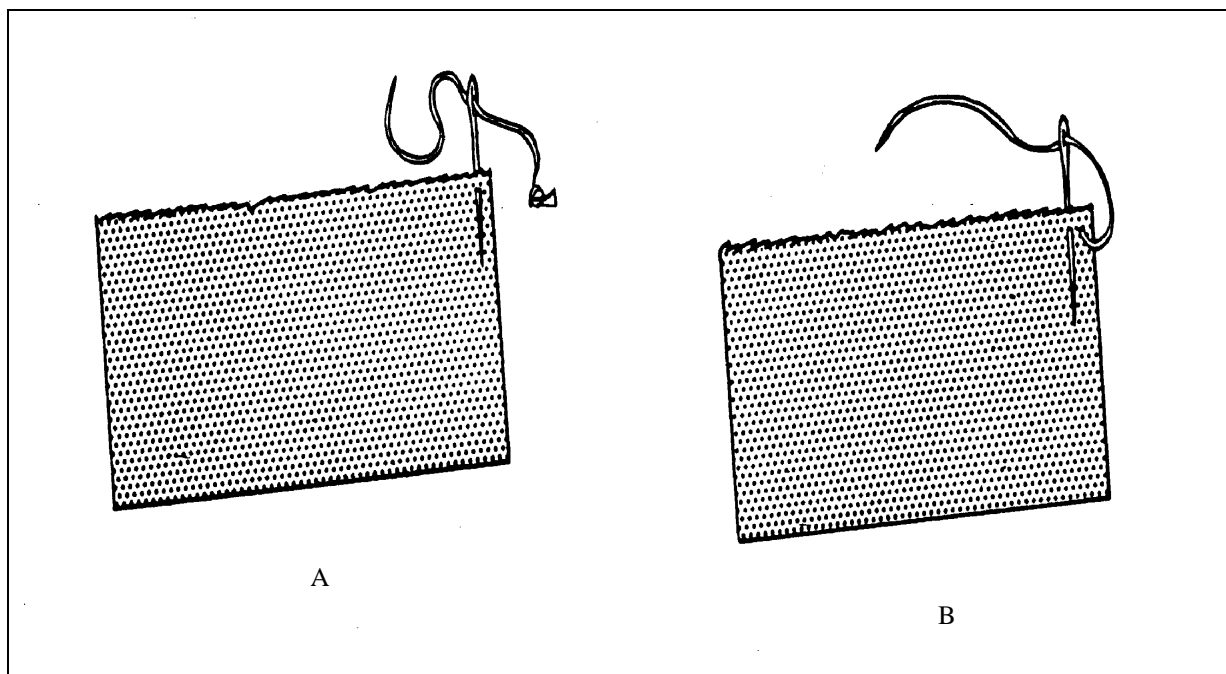

Figure 2-8. Whipstitch
e. Whipstitch (Slant Hemming or Overcast Stitch). The whipstitch (Figure 2-8) is used to finish raw edges to keep them from unraveling. To make a row of whipstitches--
- (1) Stick the needle through the cloth, and pull the thread through the cloth to the knot.
- (2) Backstitch to tack the beginning of the row.
- (3) Stick the needle into the cloth $1/6$ to $1/8$ inch from the raw edge.
- (4) Working diagonally, pass the thread and needle over the raw edge.
- (5) Stick the needle into the cloth $1/16$ to $1/8$ inch from the raw edge and $1/16$ to $1/8$ inch from the previous stitch.
- (6) Keep the stitches small and even, and stitch until the raw edge is finished.
- (7) Backstitch to tack the row at the end.
- (8) Make a knot in the thread close to the cloth, and cut off the remaining thread.